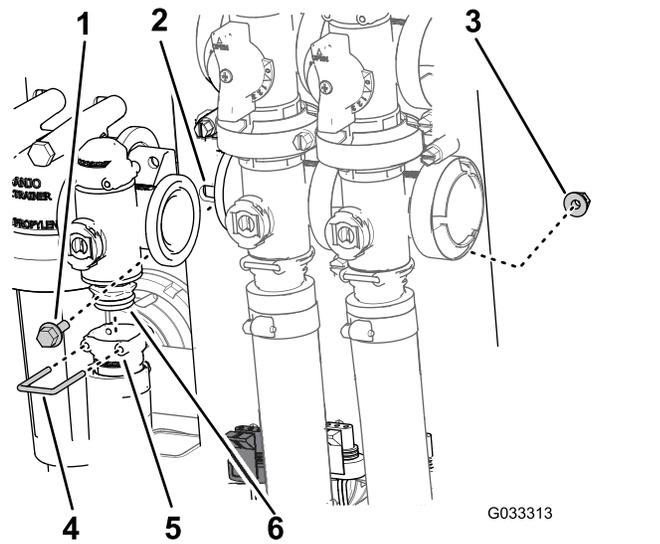

Figure 69
2. Remove the retainer that secures the outlet fitting to the manifold for the rate-control valve (Figure 69).
3. Remove the 2 flanged-head bolts and 2 flanged locknuts that secure the rate-control valve to the valve mount and remove the valve manifold from the machine (Figure 69).